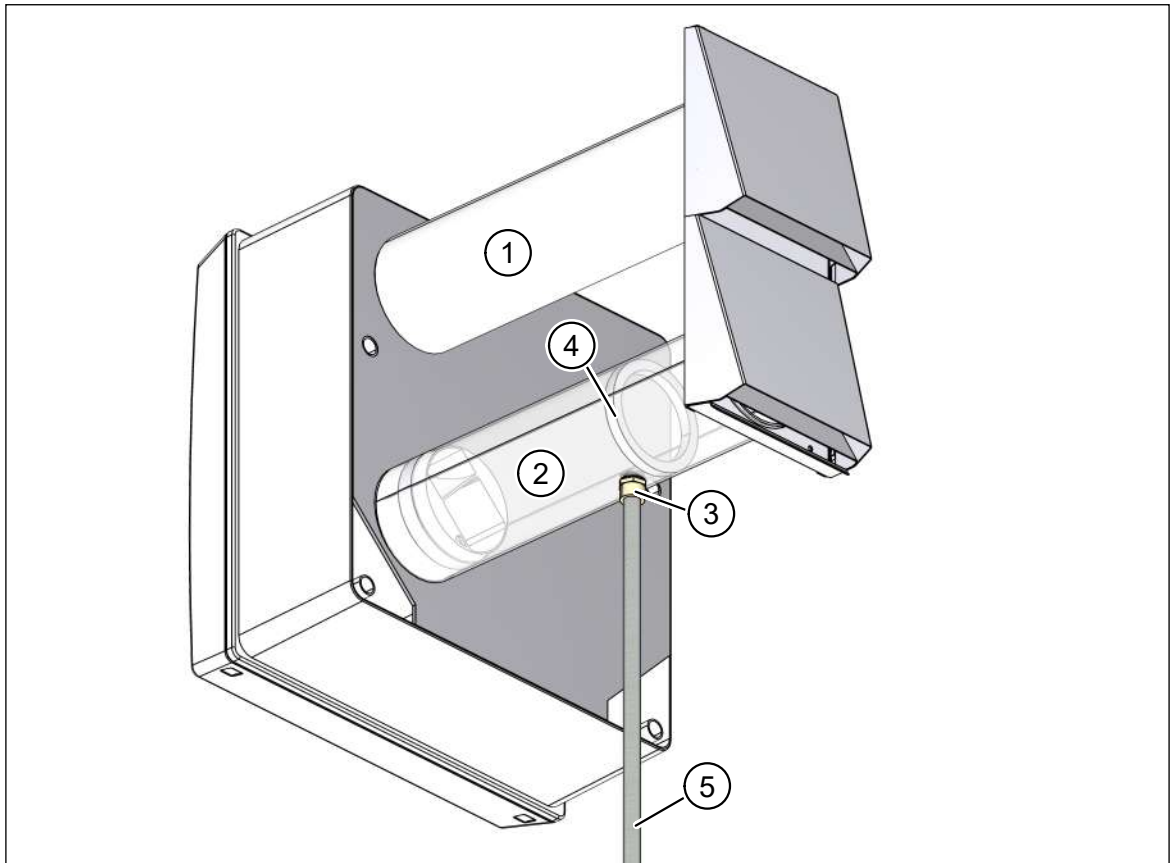

Fig. 28: Condensate drain on the exhaust air pipe
- Outdoor air pipe, DN 100, 0.5 m (item 1 in Fig. 28)
- Exhaust air pipe, DN 100, 0.5 m (item 2 in Fig. 28), with 1/2" male thread connection (item 3 in Fig. 28) and barrier (item 4 in Fig. 28) for retaining the condensate.
- In cold regions, protect the condensate drain pipe (item 5 in Fig. 28) against frost, e.g. by running it behind the facade insulation.